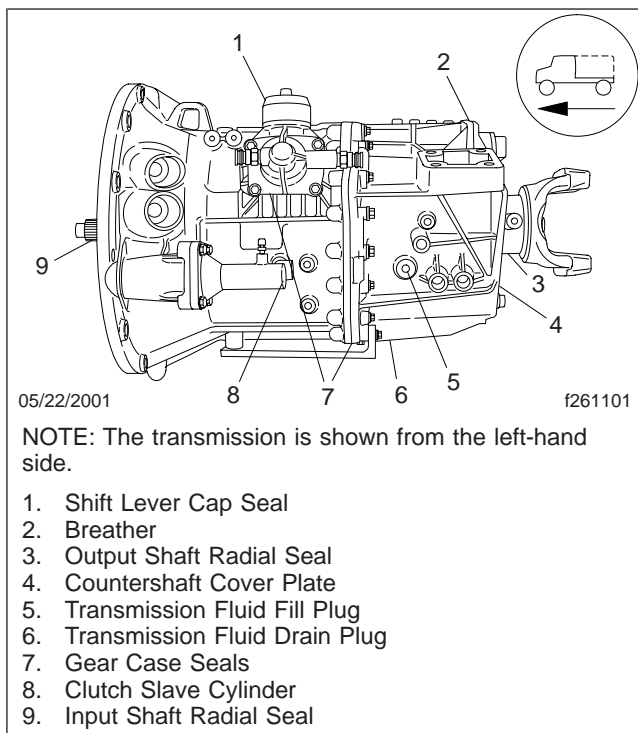

Fig. 12, MBT Leak Check
- Check for signs of leakage at the breather. See Fig. 12.